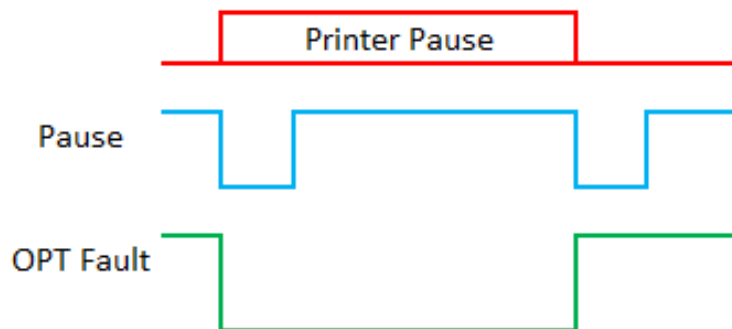

Figure 6
- c. The timing chart is shown in Figure 6.